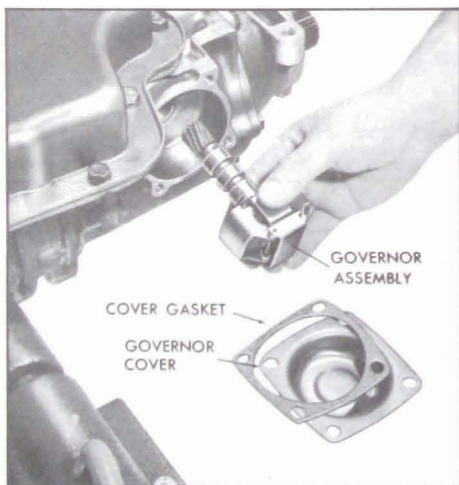

Figure 5-750
1. Install the governor assembly into the case. See Figure 5-750.